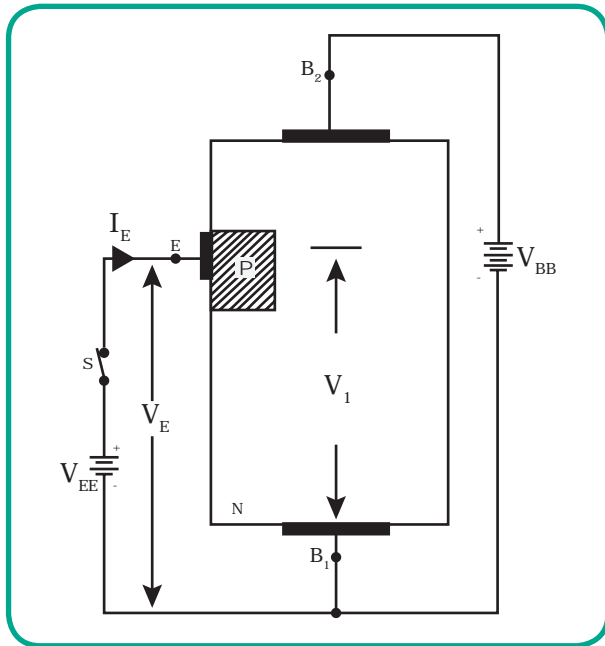

Figure 6.8(b) UJT Biasing
**Working Principle:** Figure 6.8(b) shows the biasing arrangement of UJT. The base  $B_2$  is kept at positive potential with respect to  $B_1$  using the battery terminal  $V_{BB}$ . The PN junction is always forward biased by making emitter ( $E$ ) positive with respect to base  $B_1$  using the battery terminal  $V_{EE}$ .